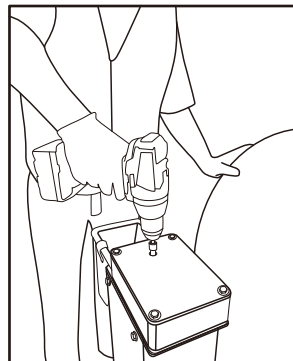

Fig. 2
4. Attach an 18V cordless drill (or equivalent of 1,000 torque rated drill or higher) onto the Drive Shaft and lower the lifting carriage until it falls below the reel axle hole (Fig 2).
9. Lift spool off the ground by attaching an 18V cordless drill with a 7/16" drive adaptor (Supplied with ProJax™ Reel Stand onto the drive shaft and raise each side until the spool is off the ground and can be easily rotated (Fig 2).